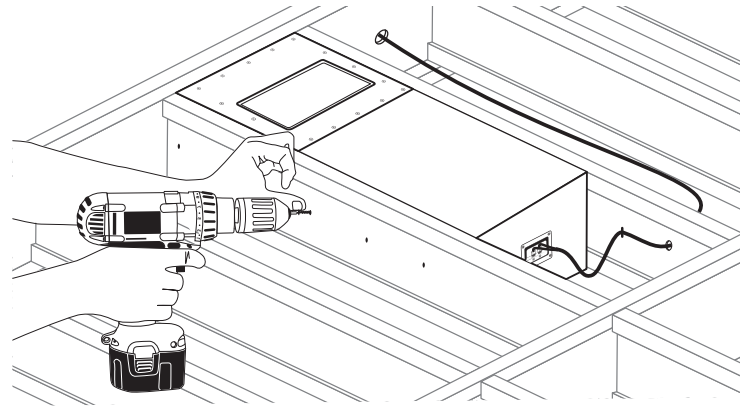

Figure 3
4. Using wood screws, secure the subwoofer to the floor joists as shown in figure 3.